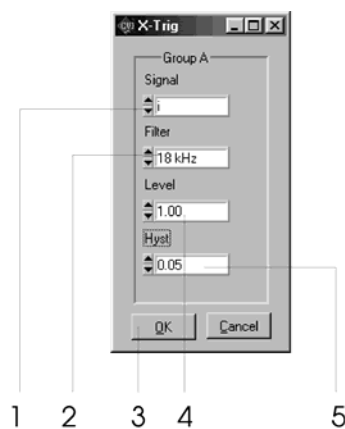

Fig. 7
You can set up the triggering conditions for synchronisation in the normal measuring mode as well as in “HARM100”. Choose Xtrig in the field „Coupl“. The appropriate window (Fig. 7) allows you setting of the triggering signal (1), filter (2), level (4) and hysteresis (5). Confirm the setting with „OK“-button (3). You have to read carefully the description of the triggering parameters, because an incorrect set up may impact measuring results.